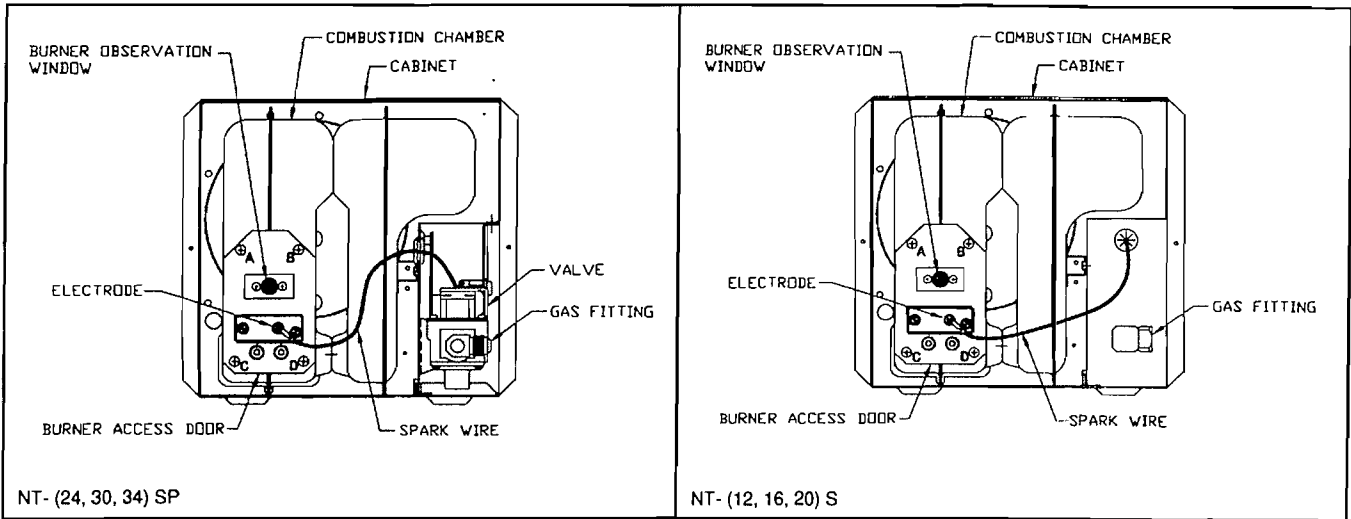
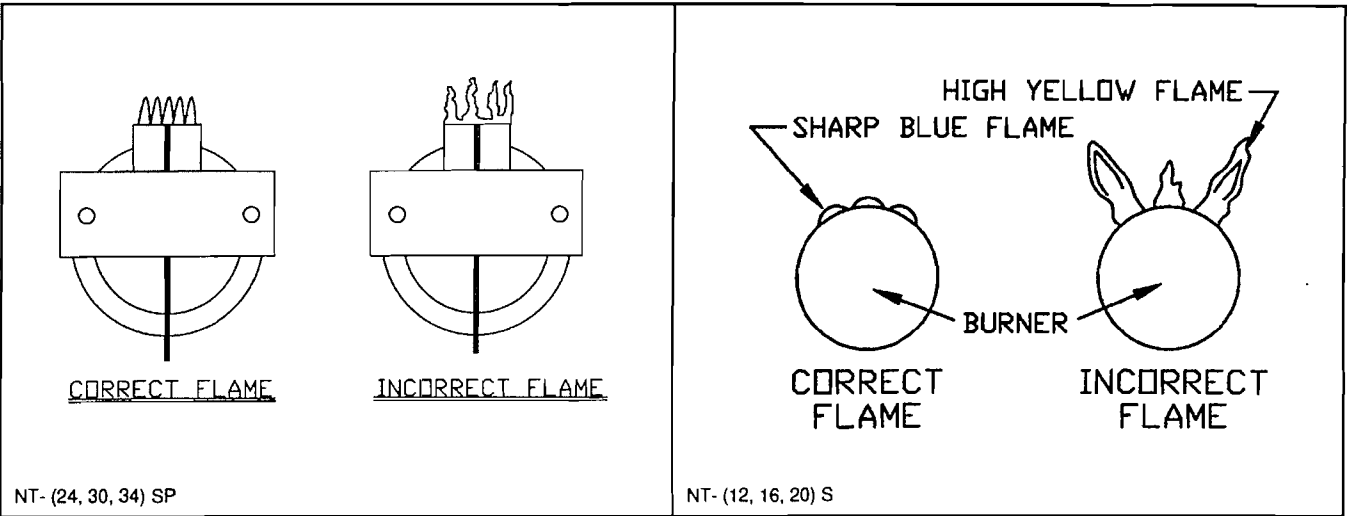

Figure 1
Figure 2
3. Periodically observe the main burner flame to assure it is burning with a hard blue flame with well defined burner ports (See Figure 2). If flame appears yellow or burner has a lazy flame, shut furnace down. It is possible that burner needs cleaning or replaced. To inspect the main burner, remove the four (4) screws (A, B, C and D) securing the burner access door to the combustion chamber (See Figure 1). If excessive rust and corrosion are present on burner surface, the burner must be thoroughly cleaned or replaced. The burner may be cleaned using a steel wire brush and blown clean using high compression air. Contact a qualified service person for assistance.
NOTE: To observe flame, cabinet front must be removed. Operation of burner can then be observed through the viewing window on front of chamber (See Figure 1).